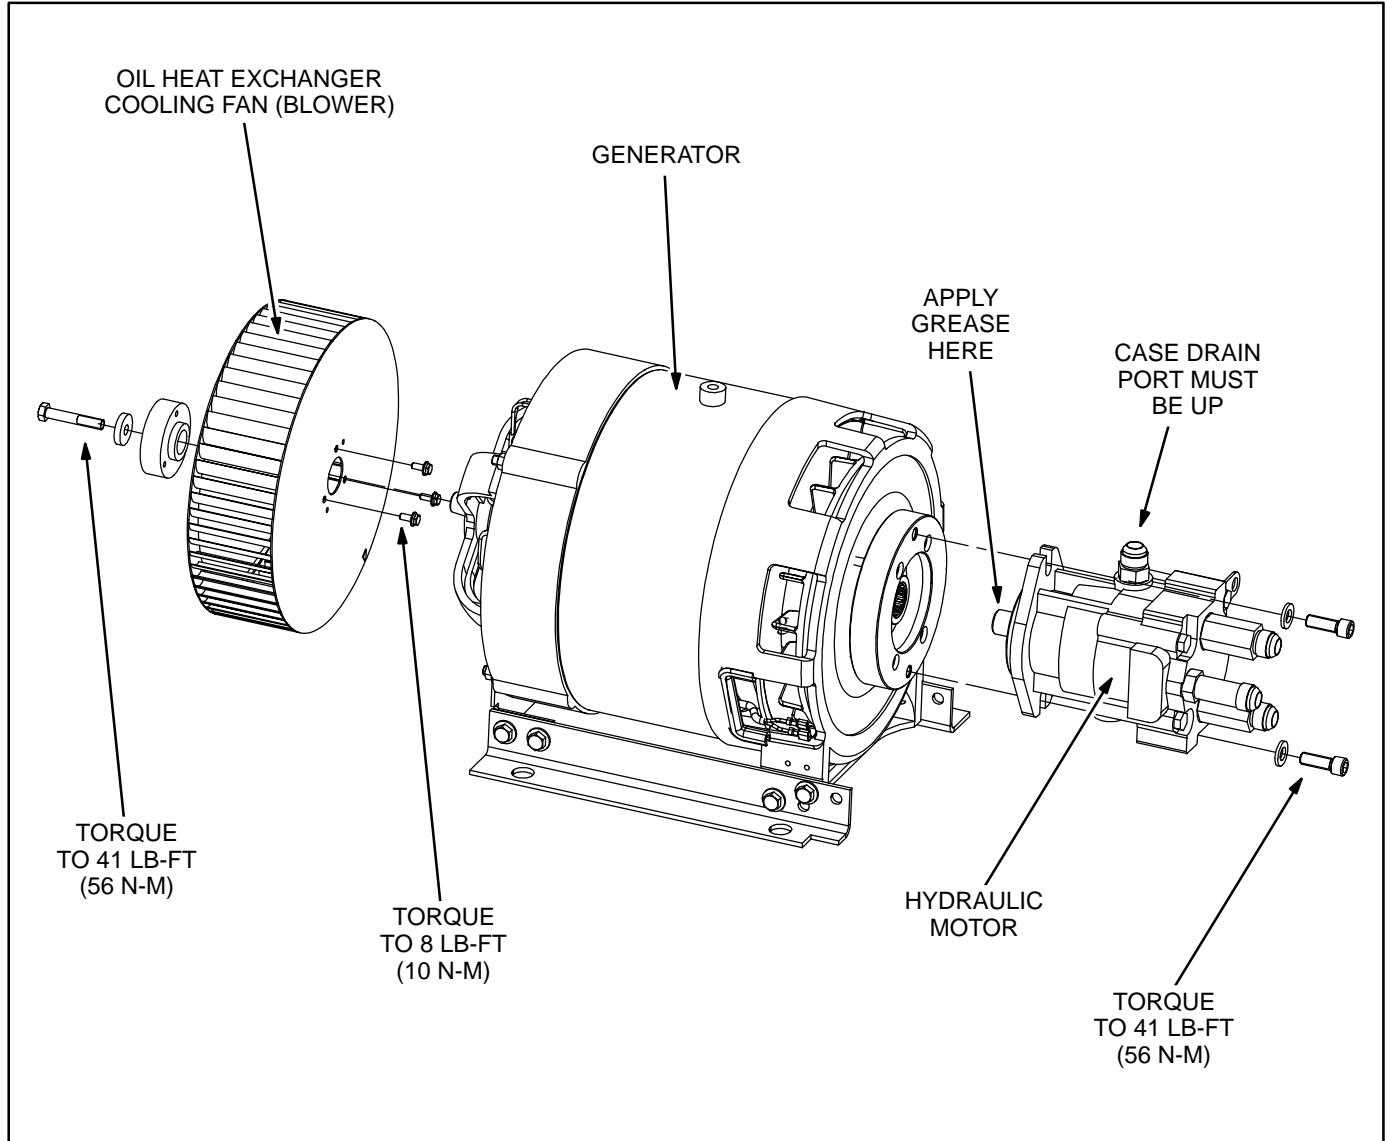

FIGURE 7. HYDRAULIC MOTOR
The generator, hydraulic motor and cooling fan should be removed as an assembly from the generator set (Figure 7).
1. Remove the fan and hydraulic motor (Figure 7). Use three M6 screws and a puller to remove the fan hub from the rotor shaft.